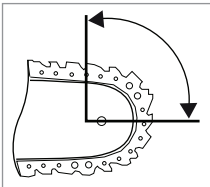

Fig. 1
- Contact with the tip of the rail can in some cases lead to an unexpected backward reaction resulting in the blade 35 flying upwards towards the operator (see Fig. 1).